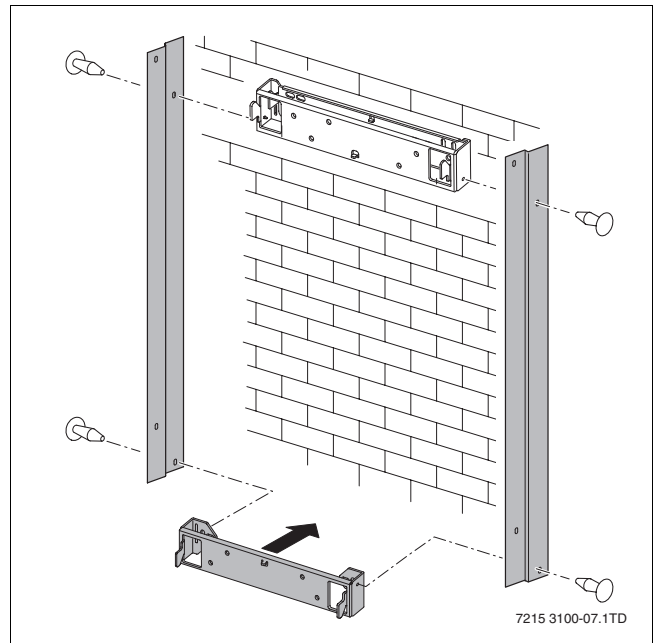

Fig. 7 Mounting the lower bracket
- Mount the two strips on the upper and lower wall-spacing brackets using the snap rivets (→ fig. 7). The lower wall-spacing bracket is fitted upside down compared to the upper wall-spacing bracket, ie. with the hooks facing down.